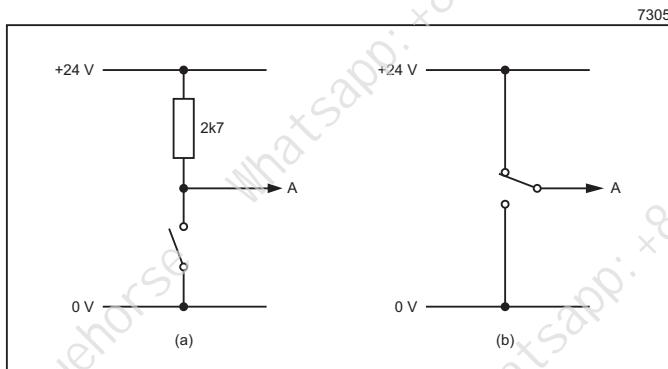

Figure 45. Input connection: ‘Sink’ option
If the ‘Sink’ option is selected (see ‘Input Sink’ on page 28), connect any inputs that are not active to the 24 V line. To connect an active input, use a pull-up resistor on the input (A) as shown in Figure 45 (a), or use a relay (b).